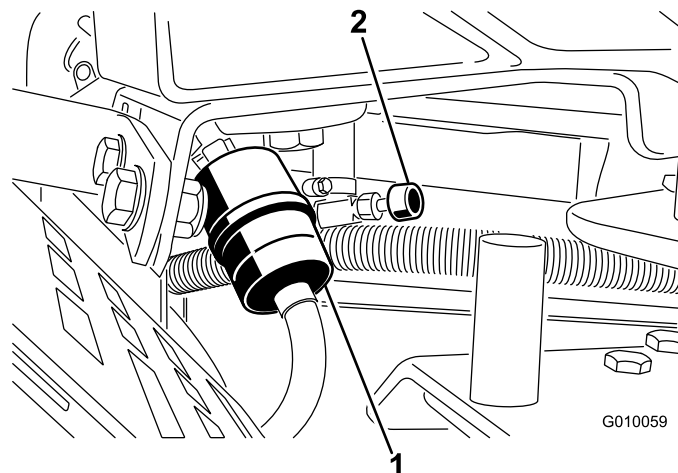

Figure 52
2. Close the fuel shut-off valve (Figure 52).
3. Squeeze the ends of the hose clamps together and slide them away from the filter (Figure 52).
5. Install a new filter and move the hose clamps close to the filter (Figure 52).
7. Open fuel shut-off valve (Figure 52).
3. Loosen the hose clamp at the fuel filter and slide it up the fuel line away from the fuel filter (Figure 52).
4. Pull the fuel line off fuel filter (Figure 52). Open the fuel shut-off valve and allow gasoline to drain into a gas can or drain pan.
5. Install the fuel line onto the fuel filter. Slide the hose clamp close to the fuel filter to secure the fuel line (Figure 52).